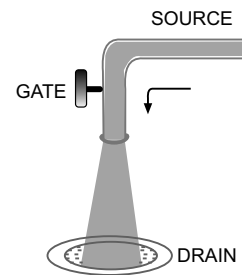

Fig. 17.5
**Water Analogy for JFET Operation.** Analogies are seldom perfect and at times can be misleading. Nevertheless, we do make use of analogies to provide simple explanation for the device/process. Fig. 17.5 shows the water analogy for the operation of JFET. The source of water pressure can be regarded as the applied voltage between the drain the source that will establish a flow of water (electrons for  $n$ -type bar) from the spigot (source). The “gate” through an applied signal (potential) controls the flow of water (charge) to the “drain”. The drain and source terminals are at the opposite ends of the channel.